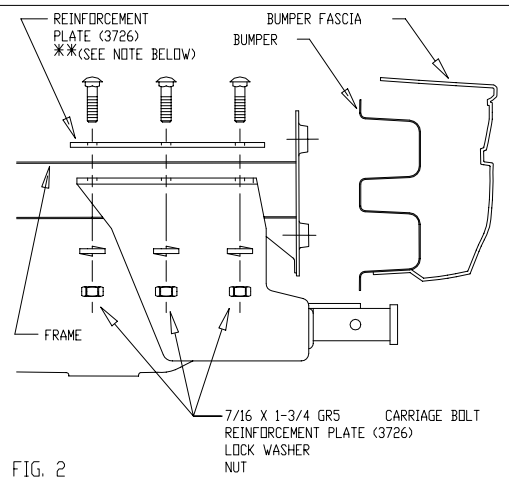

FIG. 2
- POSITION HITCH ON VEHICLE AS IN FIG. 2. INSTALL 7/16 CARRIAGE BOLTS DOWN THROUGH REINFORCEMENT PLATE (3726) AND TRUNK PAN INTO HITCH. FASTEN WITH LOCK WASHERS AND NUTS.
- POSITION DRIVER'S SIDE OF HITCH THE SAME DISTANCE FROM THE END OF THE FRAME AS THE PASSENGER'S SIDE. USING DRIVER'S SIDE OF HITCH AS A TEMPLATE, CENTER PUNCH AND DRILL THREE (3) 7/16" HOLES UP INTO TRUNK PAN. HOLES MAY BE ENLARGED FROM THE INSIDE OF THE TRUNK IF NEEDED.
- USING REINFORCEMENT PLATE (3726) AS A TEMPLATE, DRILL THREE (3) 7/16" HOLES (OUTBOARD OF HOLES DRILLED EARLIER), EACH SIDE, THROUGH TRUNK PAN. INSTALL REMAINING 7/16 CARRIAGE BOLTS AND FASTEN WITH LOCK WASHERS AND NUTS.